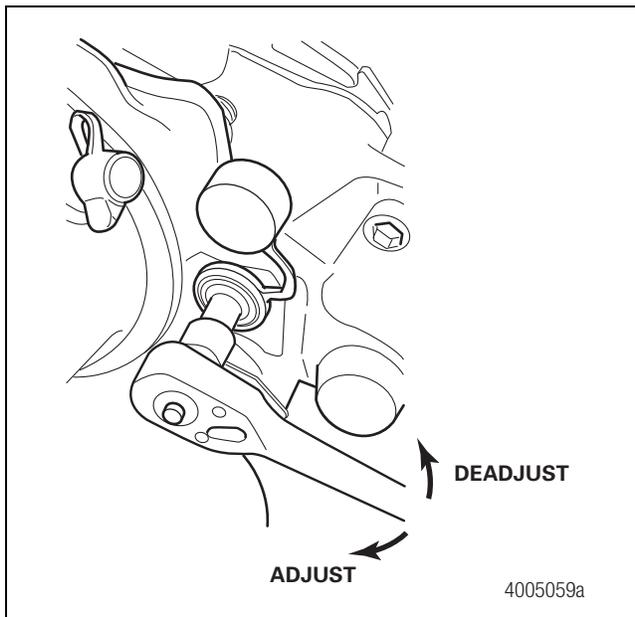

Figure 16
- B. Use a 10 mm wrench to rotate the manual adjuster stem **CLOCKWISE** so that the brake pad-to-rotor clearance is **ZERO**. Figure 16.
- C. Deadadjust the manual adjuster stem one half turn **COUNTERCLOCKWISE** to set the initial running clearance. Reinstall the adjuster cover. Figure 16.